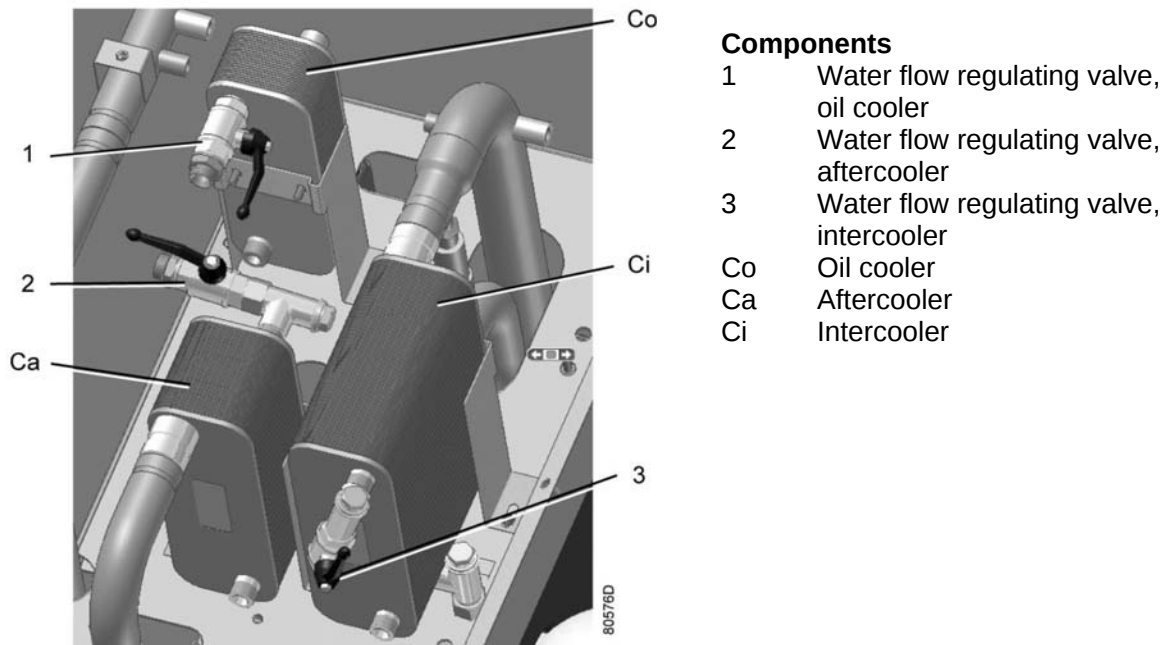

FIG. 3.2.1e. Water system on ZR compressors
2. **On “ZR”**, check the setting of the valves (1, 2 & 3 - FIG 3.2.1e) as described in section 3.2.1. This can be overlooked if, after previous operation, the settings of these valves have not been disturbed.